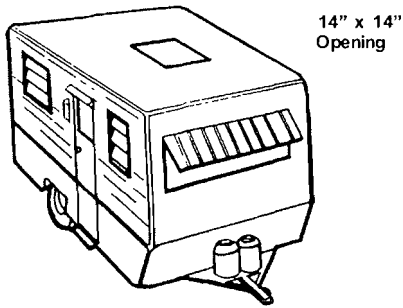

FIG. 2
(Refer to FIGS. 2 & 3)
- B. Lift unit up and place over the prepared 14" x 14" opening. The blunt end of Air Conditioner goes toward the rear of the RV. (Refer to FIG. 2).